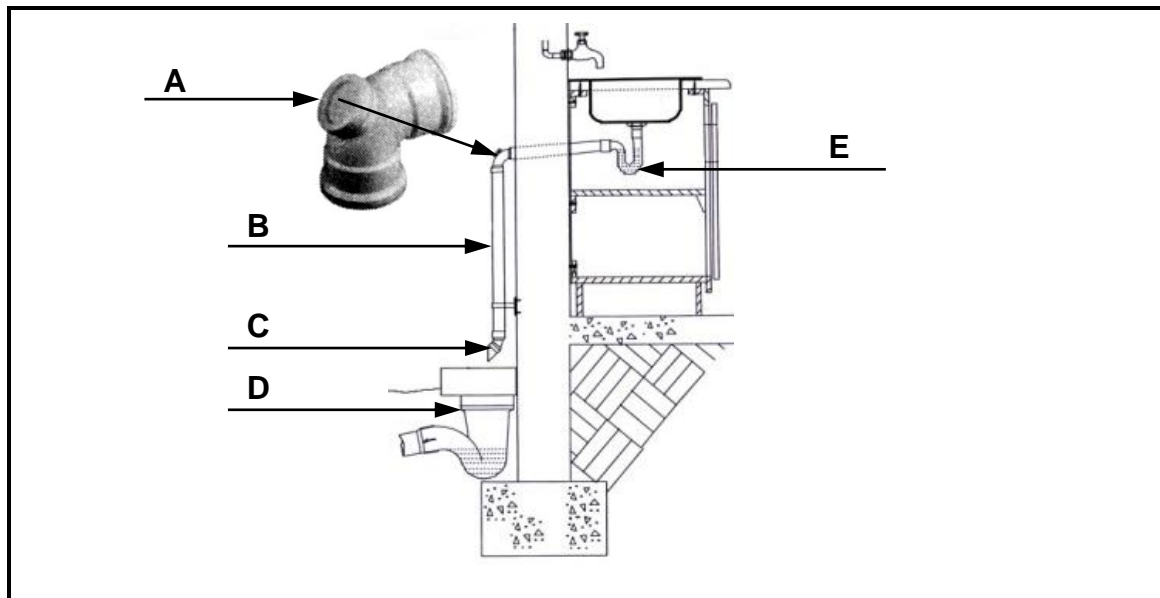

FIGURE 5.8
5.8 Answer the following questions with regard to the sink installation in FIGURE 5.8.